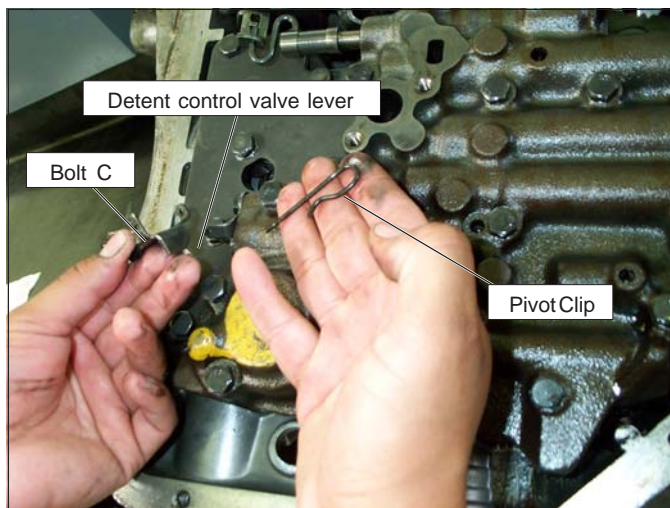
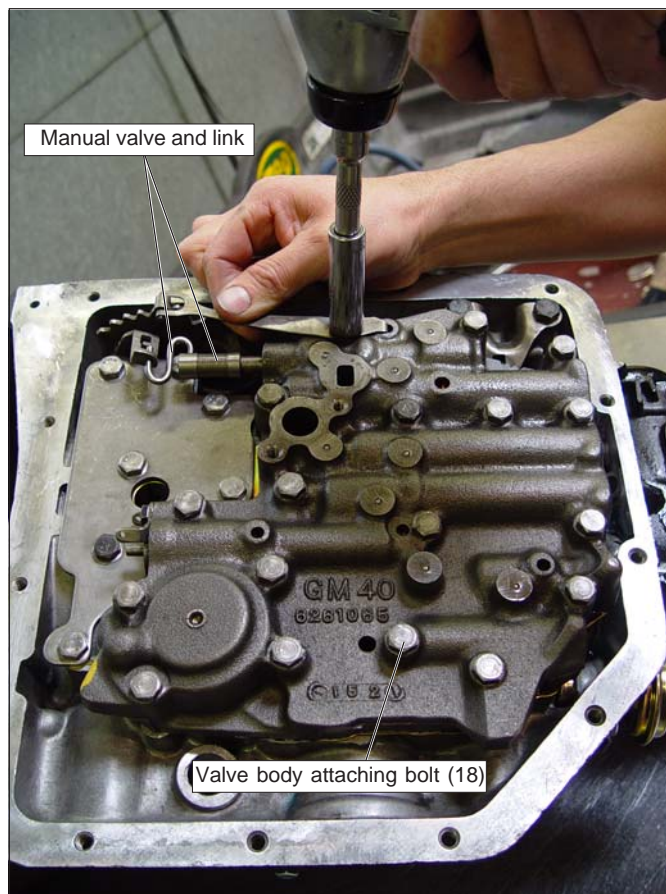

Figure 2
Figure 3
STEP 4. Remove pivot clip holding detent control valve lever in place. (See Fig. 2) Remove the lever also and set them in the tray. Remove 18 valve body attaching bolts. (See Fig. 3) Leave the drain pan positioned as there is still oil between the valve body and separator plate. Remove the valve body by pulling straight down and disengaging the manual valve and link from the manual lever. (Do not let the manual valve fall out of the valve body.) Put the valve body in the oil pan.
STEP 16. Connect detent control lever to detent control valve link. Position lever on valve body. Install pivot clip (See Fig. 2). If pivot clip contacts spacer support plate and does not fully seat into slot on detent control lever, trim pivot clip until it just clears support plate. If detent control valve lever contacts bolt 'C' (See Fig. 2), remove lever and file or grind clearance. Install new oil filter and gasket supplied. Tighten screws securely.